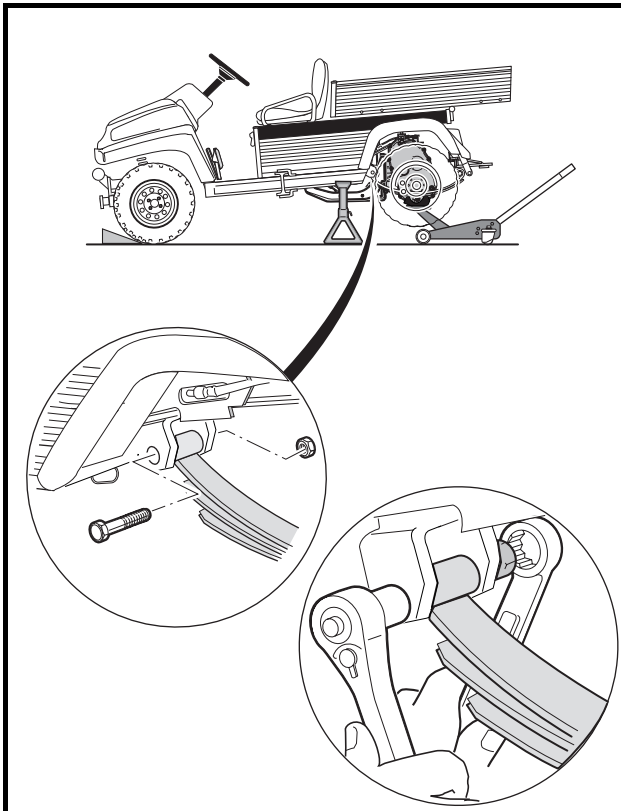

Figure 16-45 Leaf Springs
15. Position the powertrain, using the floor jack, to align the leaf springs in the front spring mounts and install the grade eight bolts and lock nuts and tighten to 15 ft-lb (20.3 N·m) (**Figure 16-45, Page 16-18**). **See following CAUTION.**